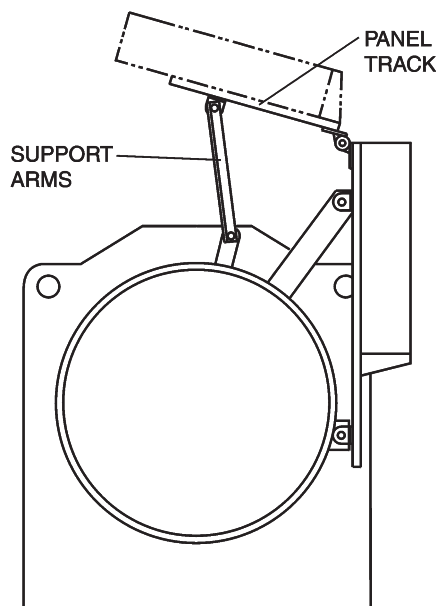

Figure 4.5 Control Panel Positioning
4.16 Control Panel Positioning (See Figure 4.5)